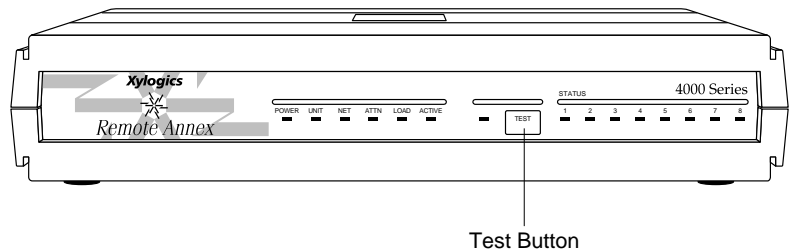

Figure C-11. Setting the Remote Annex 4000 to Test Mode
- 2 Set the Remote Annex 4000 to test mode by pressing the Test switch on the front panel (see Figure C-11). The Test LED should light.